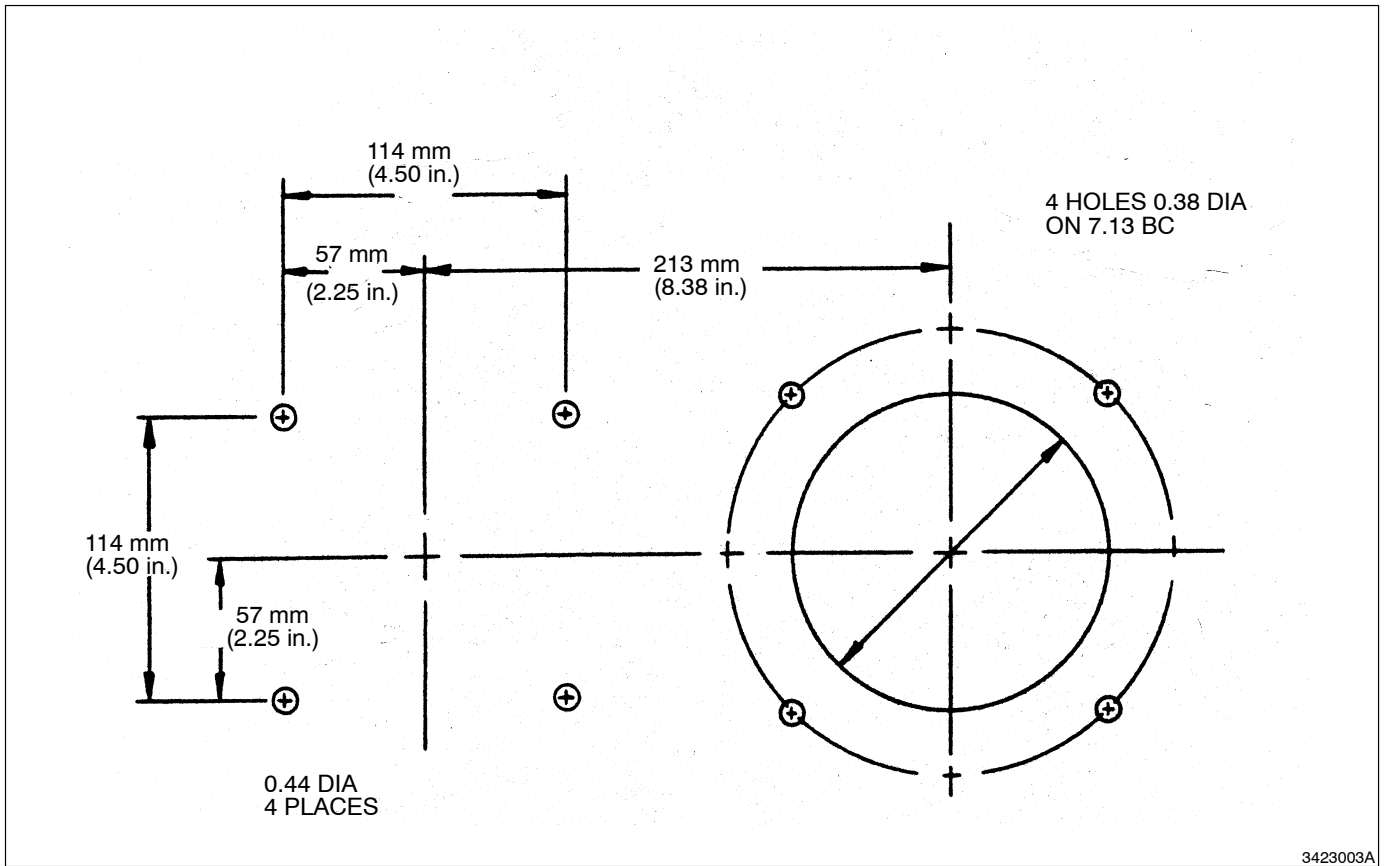

Fig. 3 Sieve Mounting Hole Pattern
1. See Figure 3. Place the sieve on the hopper cover to determine the optimum mounting location. Trace around the sieve housing to mark the approximate location.